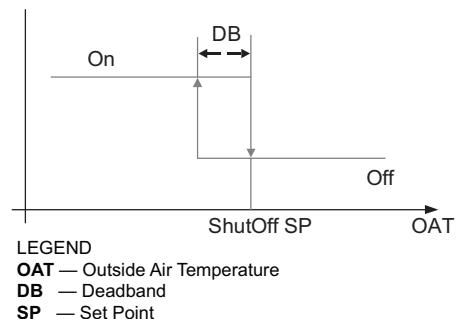

Fig. 70 — Hysteresis Settings
Hysteresis setting (DB) defaults to 2°F (-16.6°C). See Fig. 70.